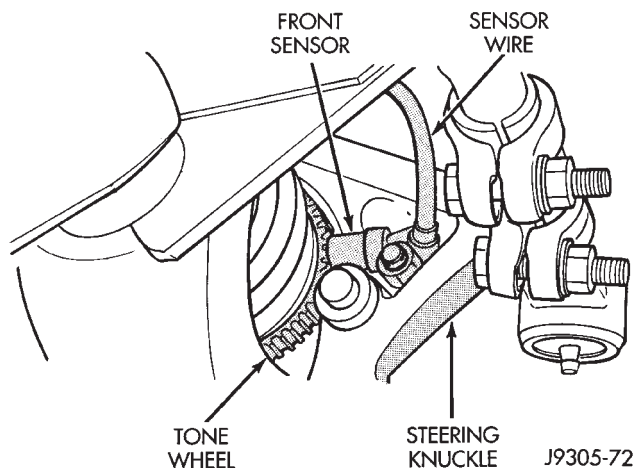

Fig. 18 Sensor Location
(1) Turn ignition switch to OFF position.
(2) Raise vehicle.
(3) Remove wheel and tire assembly.
(4) Remove bolt attaching front sensor to steering knuckle (Fig. 18).